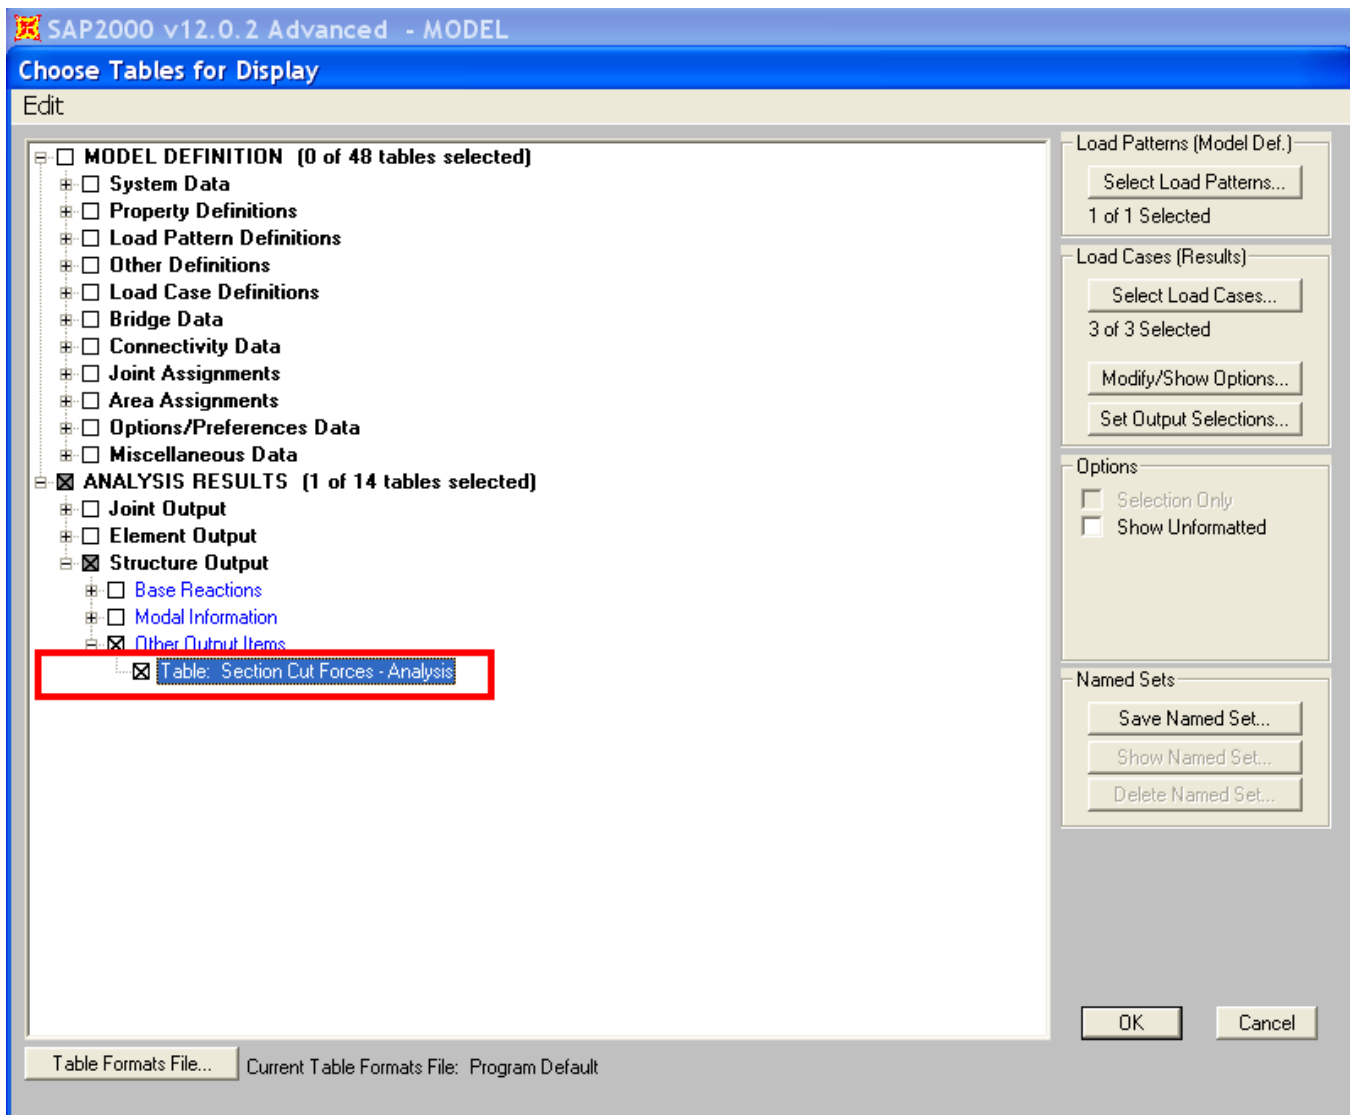

Figure 2 - Section-cut forces
- Once analysis is run, section-cut forces are available in tabular format by selecting Display > Show Tables > Analysis Results > Structure Output > Other Output Items > Table: Section Cut Forces - Analysis, as shown in Figure 2:
Section cuts may also be defined by specifying a group of structural objects. Here, section-cut forces represent the sum of **joint** forces within those **frame**, **shell**, and **link** objects which are included in the group. As shown in Figure 2, the Section Cut Group must include All joints for which forces should be summed.